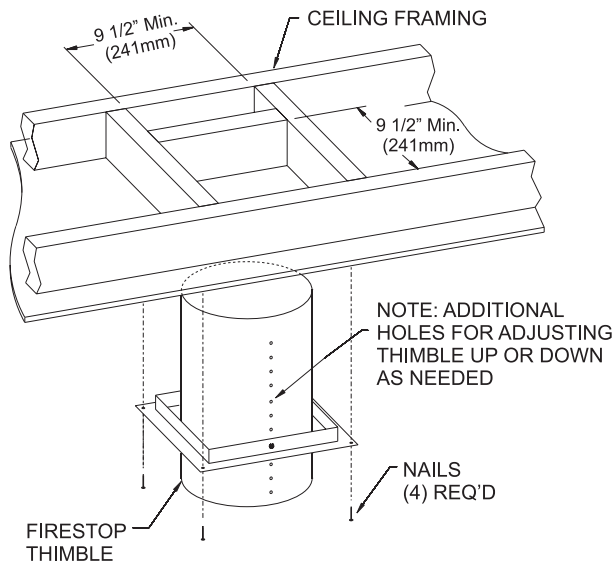

Figure 51
4. Once the fireplace location has been determined, mark the ceiling where the flex vent will pass through. Cut an opening for installation of the firestop thimble assembly. The opening must measure a minimum of 9-1/2" x 9-1/2" square. **See Figure 51.**